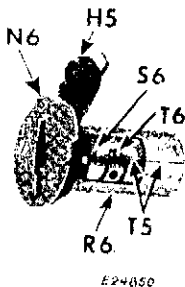

Fig. 134. Bearing Sleeve Reassembled
2. Assemble bushing **O6** to position lever **H5** and slide unit through eccentric **S6** and sleeve assembly **R6**, as shown in Fig. 134.
3. Attach tenon plate **N6** to sleeve, with groove **B7** facing sleeve assembly, as shown in Fig. 134. Fasten securely with the two screws **Q6**.
4. Set position lever **H5** at point where position stop **A7** engages groove **B7** on tenon plate (central position). Align timing marks **T5** on eccentric and bearing sleeve, as shown in Fig. 134 and tighten eccentric screw **T6**.